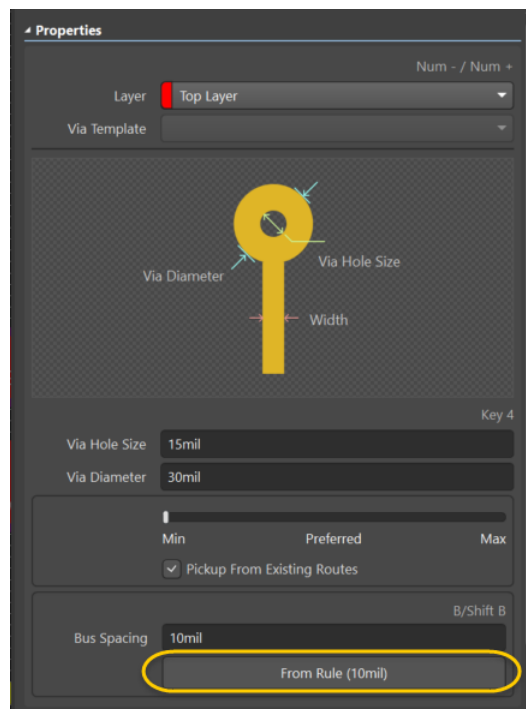

Figure 14. Bus Spacing from Rule
- Change the Bus Spacing to 10mil by pressing **From Rule (10mil)** as shown in Figure 14.